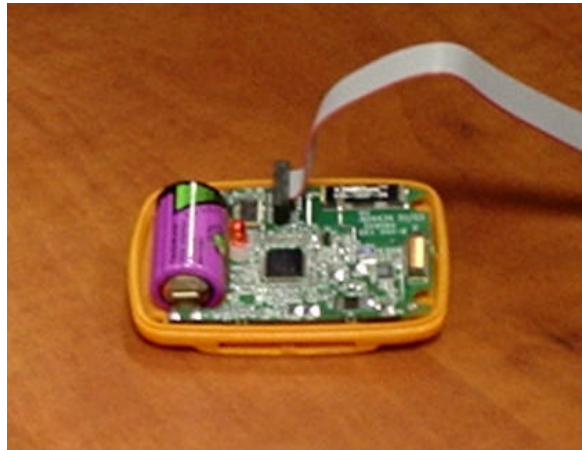

Figure 5: Connecting the RS-232 Cable to the Tag
6. Connect the other end of the RS-232 cable to the serial port socket inside the Tag (see Figure 5: Connecting the RS-232 Cable to the Tag – make sure that the red wire of the flat cable is on your right).